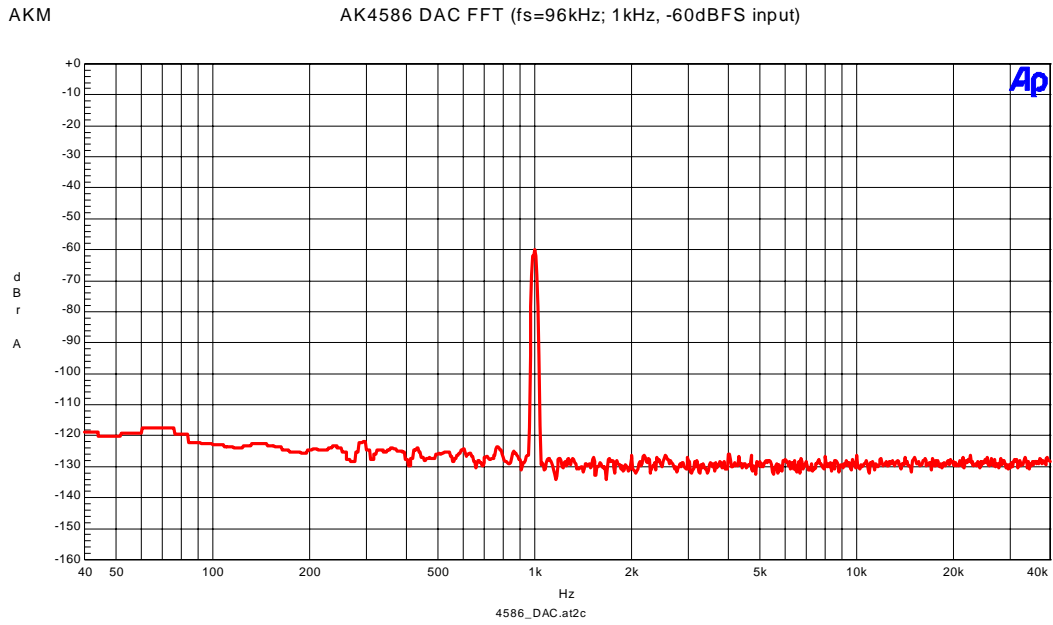

Figure 4-3. FFT (1kHz, -60dBFS input)
- Figure 4-3. FFT (1kHz, -60dBFS input)